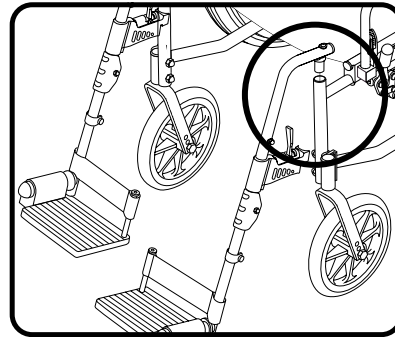

Figure 8. Foot Rigging Removal
5. Either remove the foot riggings or move them aside. See figure 8. You can also flip up the foot plates. This will help to prevent your feet from being caught on the foot riggings during the transfer. If you use the foot riggings to support yourself during transfer, you risk tipping your wheelchair.